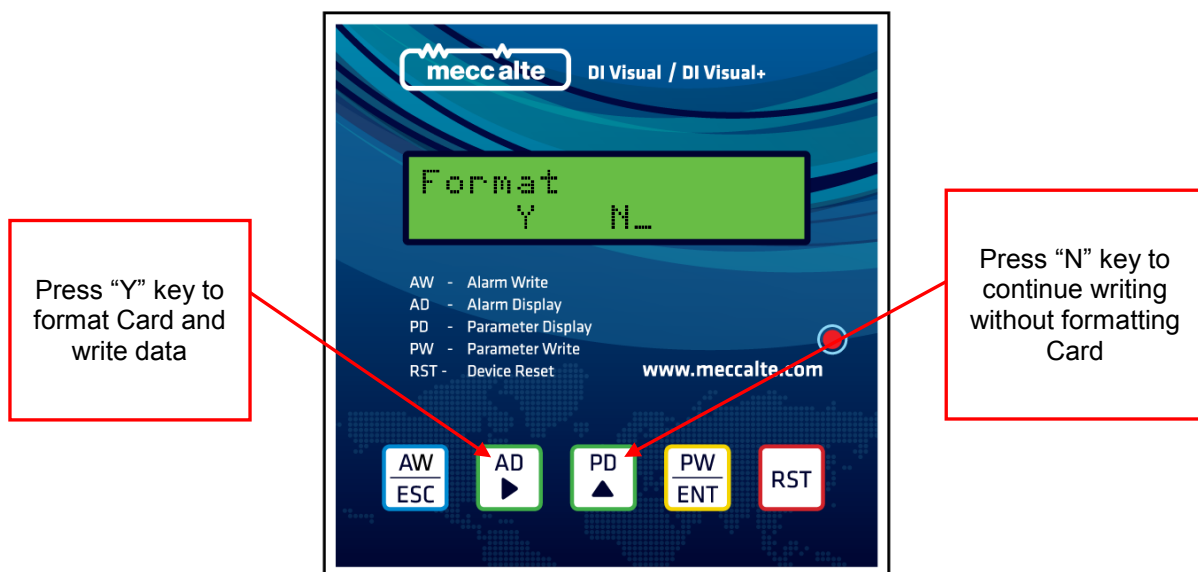

fig. 14
- 3) Once the Alarms values are collected from the DSR "Format Y N" message will be displayed on the LCD display. Press  key as shown in Fig. 14 above to format the SD Card and continue writing Alarm values on the SD card and LCD display will show message "Writing Data" blinking as shown in image below. Press  key to continue writing alarms without formatting the SD Card. (Recommended to Format card for the first time writing).